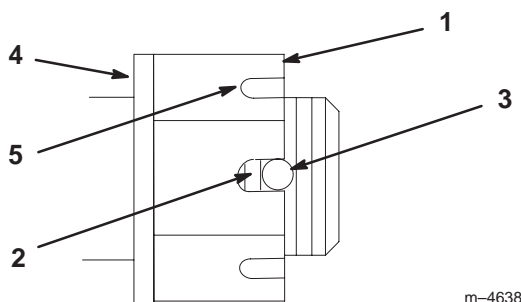

Figure 55
3. Torque the slotted nut to 125 ft-lb (170 N·m) (Fig. 55).
4. Check the distance from the bottom of the slot in the nut to the inside edge of the hole. Two threads or less should be showing (Fig. 55).
5. If more than two threads are showing, remove the nut and install a washer between the hub and nut (Fig. 55).
6. Torque the slotted nut to 125 ft-lb (170 N·m) (Fig. 55).
7. Tighten the nut until the next set of slots line up with the hole in the shaft (Fig. 55).